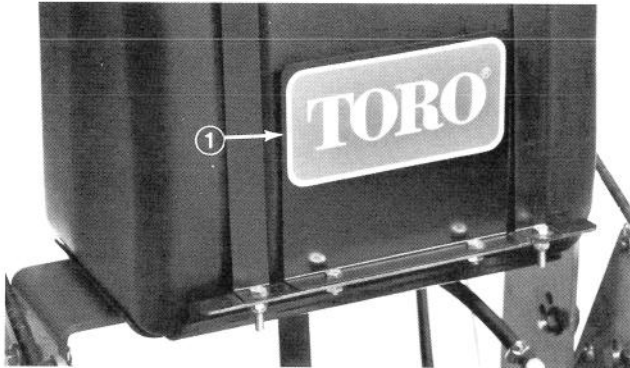

Figure 8
3. Wrap straps over tank and secure to front of mounting plate with (2) 1/4-20 x 5/8" lg. capscrews and locknuts (Fig. 8).
4. Secure fuel tank decal plate to front of mounting plate with (2) 1/4-20 x 5/8" lg. capscrews and locknuts (Fig. 8).